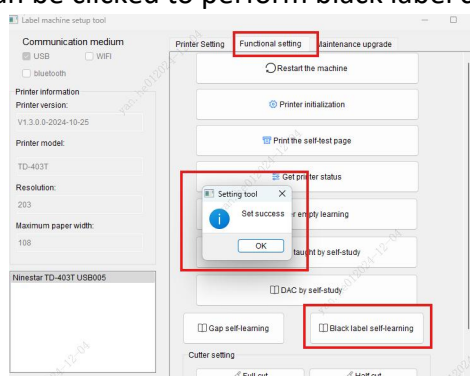

Fig.56
(9)Black Label Self-Learning: The printer learns and records the current status of the black label on the paper. Select the "Functional Settings" section and click "Black Label Self-Learning" to pop up the "Set Success" prompt box as shown in Figure 56.